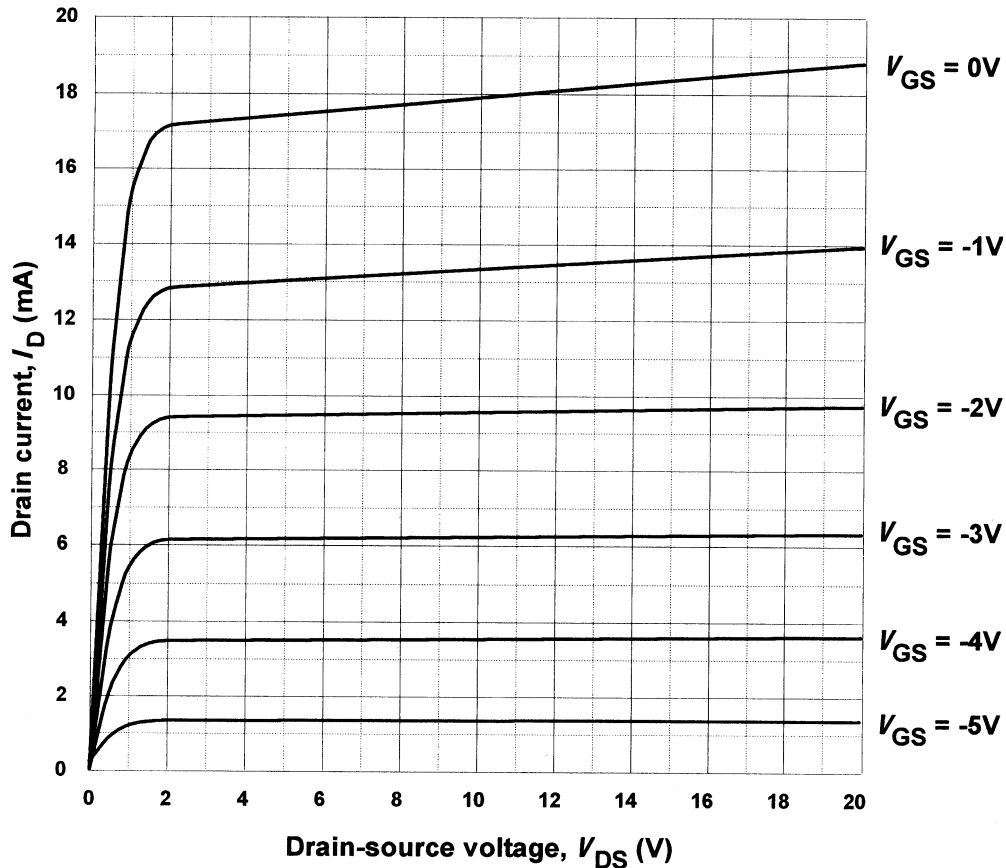

Figure 7.46
- 7.9 The output characteristics of a field effect transistor are shown in Fig. 7.46. If this FET is used in an amplifier circuit operating from an 18 V supply with a gate-source bias voltage of -3 V and a load resistor of $900\text{ }\Omega$, determine the quiescent values of drain-source voltage and drain current. Also determine the peak-peak output voltage when an input voltage of 2 V pk-pk is applied. Also determine the voltage gain of the stage.